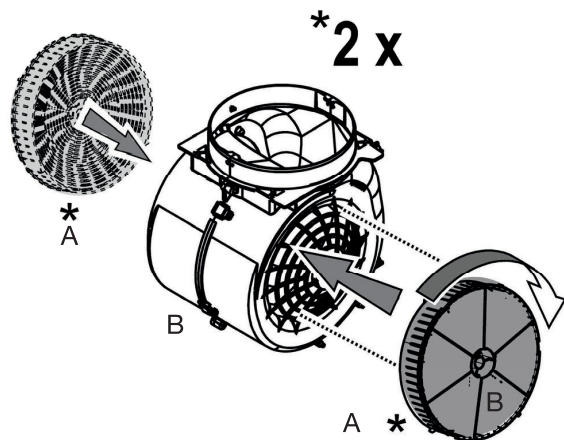

Figure 6
- To remove the activated charcoal filter** (Fig. 6), turn the filter holders (A) on either side of the motor (B) to remove them.
- Then remove the filters (C) from the filter holders and replace them with new filters.